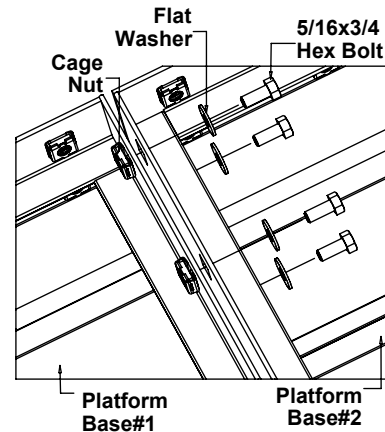

Fig. 3.12
3.5 MULTIPLE PLATFORM BASE CONNECTION: To connect platform bases remove cage-nuts from one of the platforms at the seam. Place a 5/16x3/4 hex bolt with washer through the square hole on the inside of the landing channel and thread hex bolt into the aligning cage-nut on the opposite platform (Fig. 3.12). Depending on the rise of the platform this connection can be made before or after attaching the handrail and legs. It is recommended that platform applications with a rise greater than 24" be connected after the handrail and legs have been installed.